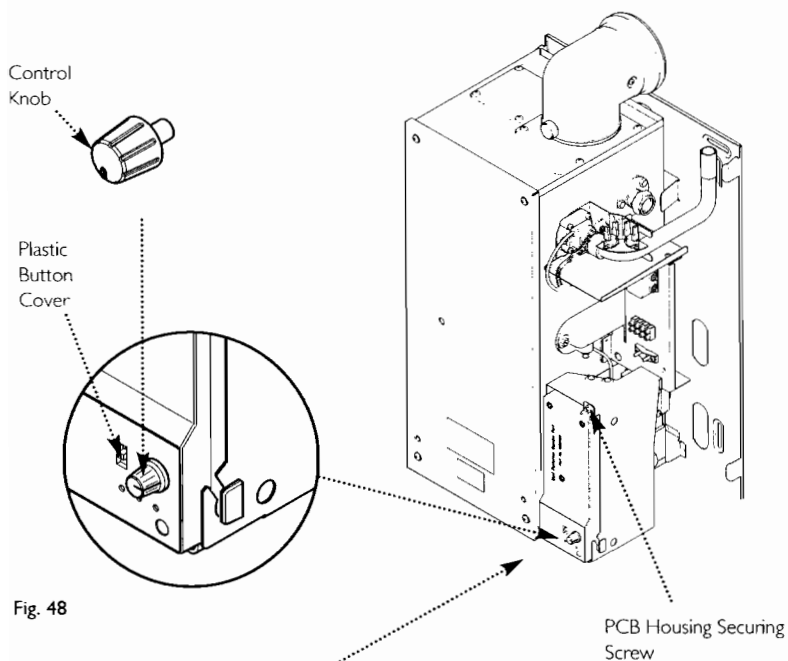

Fig. 48
### 13.4 PCB (Figs. 48 & 49)
1. Pull the control knob off the spindle and remove the plastic button cover. Refit them onto the new PCB (Fig. 48).